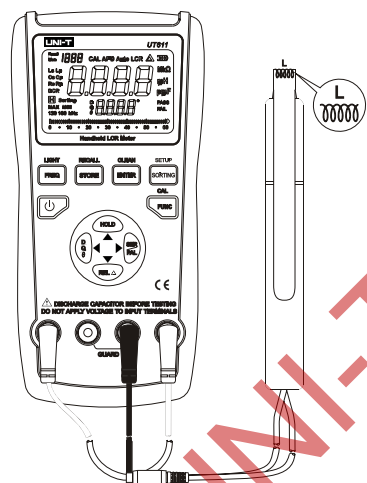

Figure 6
- 3) Connect inductance to the testing terminal or connect the corresponding accessory to the measured inductance (As shown in Figure 6).